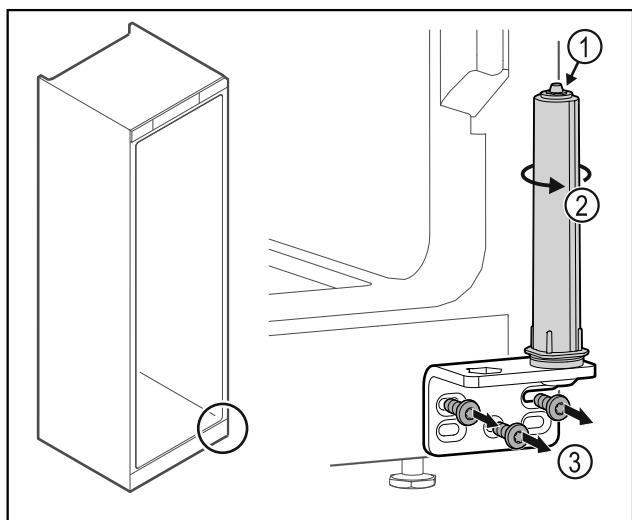

Fig. 32
- Do not disassemble the door closing system Fig. 32 (1).
- Turn the closing system Fig. 32 (2) until it clicks.
- Unscrew the hinge Fig. 32 (3).